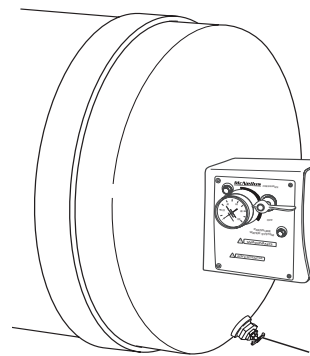

Figure 41
2. Open the tank drain valve (Figure 41, Item 1) and allow the water to drain. When water is drained, close the drain valve.